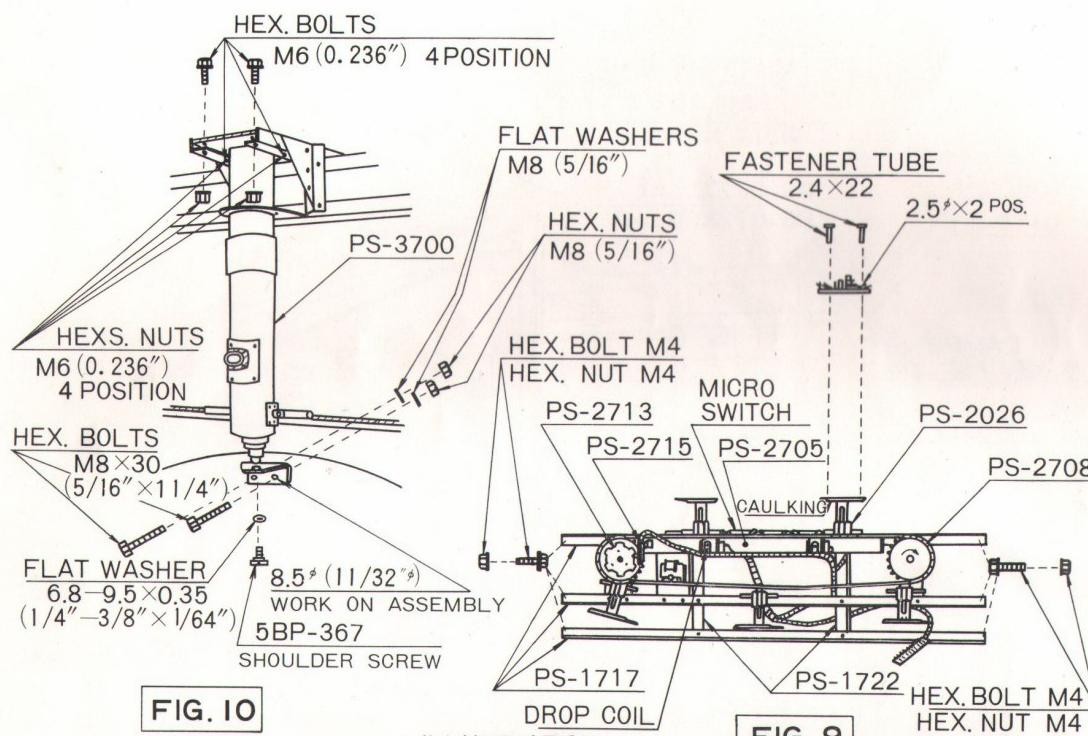

FIG. 10
15. Put the periscope on the top front bars, screw the periscope bracket (PS-0721) to the bottom of the periscope and bring it into proper position. The bracket must be horizontal. Drill two holes through the front panel and tighten this bracket. Line up the periscope and tighten the periscope base plate with bolts and nuts to the top frame. Check that the periscope is easy to turn by its handle, as shown in Fig. 10. Put the periscope cover board into the slot above the top wood bar, and fasten with wood screws as shown in Fig. 3.